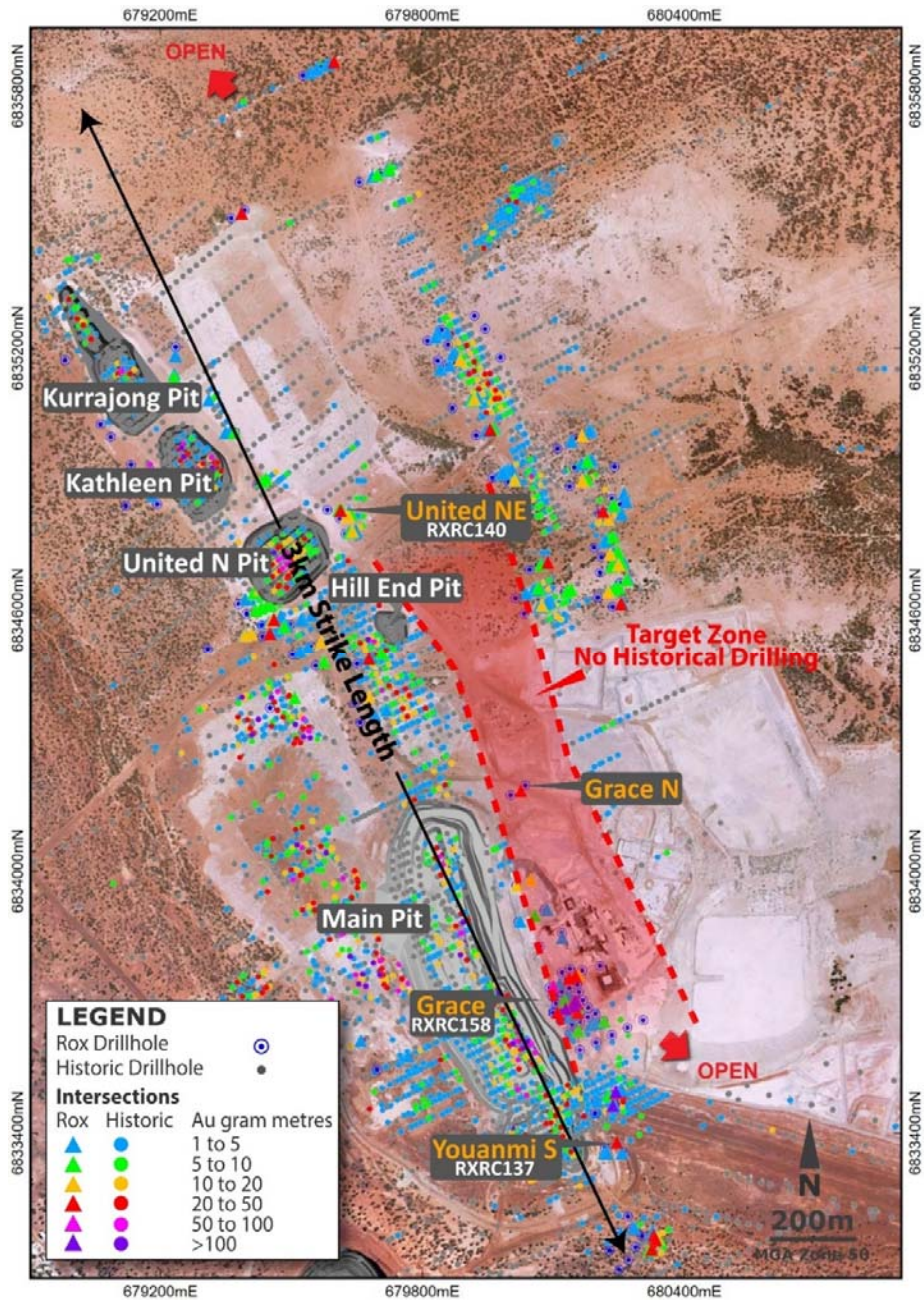

Figure 1 – Drill pierce points showing gram metre intersections & locations of holes in this release
Drilling in the latter part of the 2019 program tested conceptual targets to the north and south of the Youanmi gold mine. Encouragingly new zones of mineralisation were encountered by (1) RXRC140 - to the east of the United North Pit and (2) RXRC137 at Youanmi South (See Figure 1).